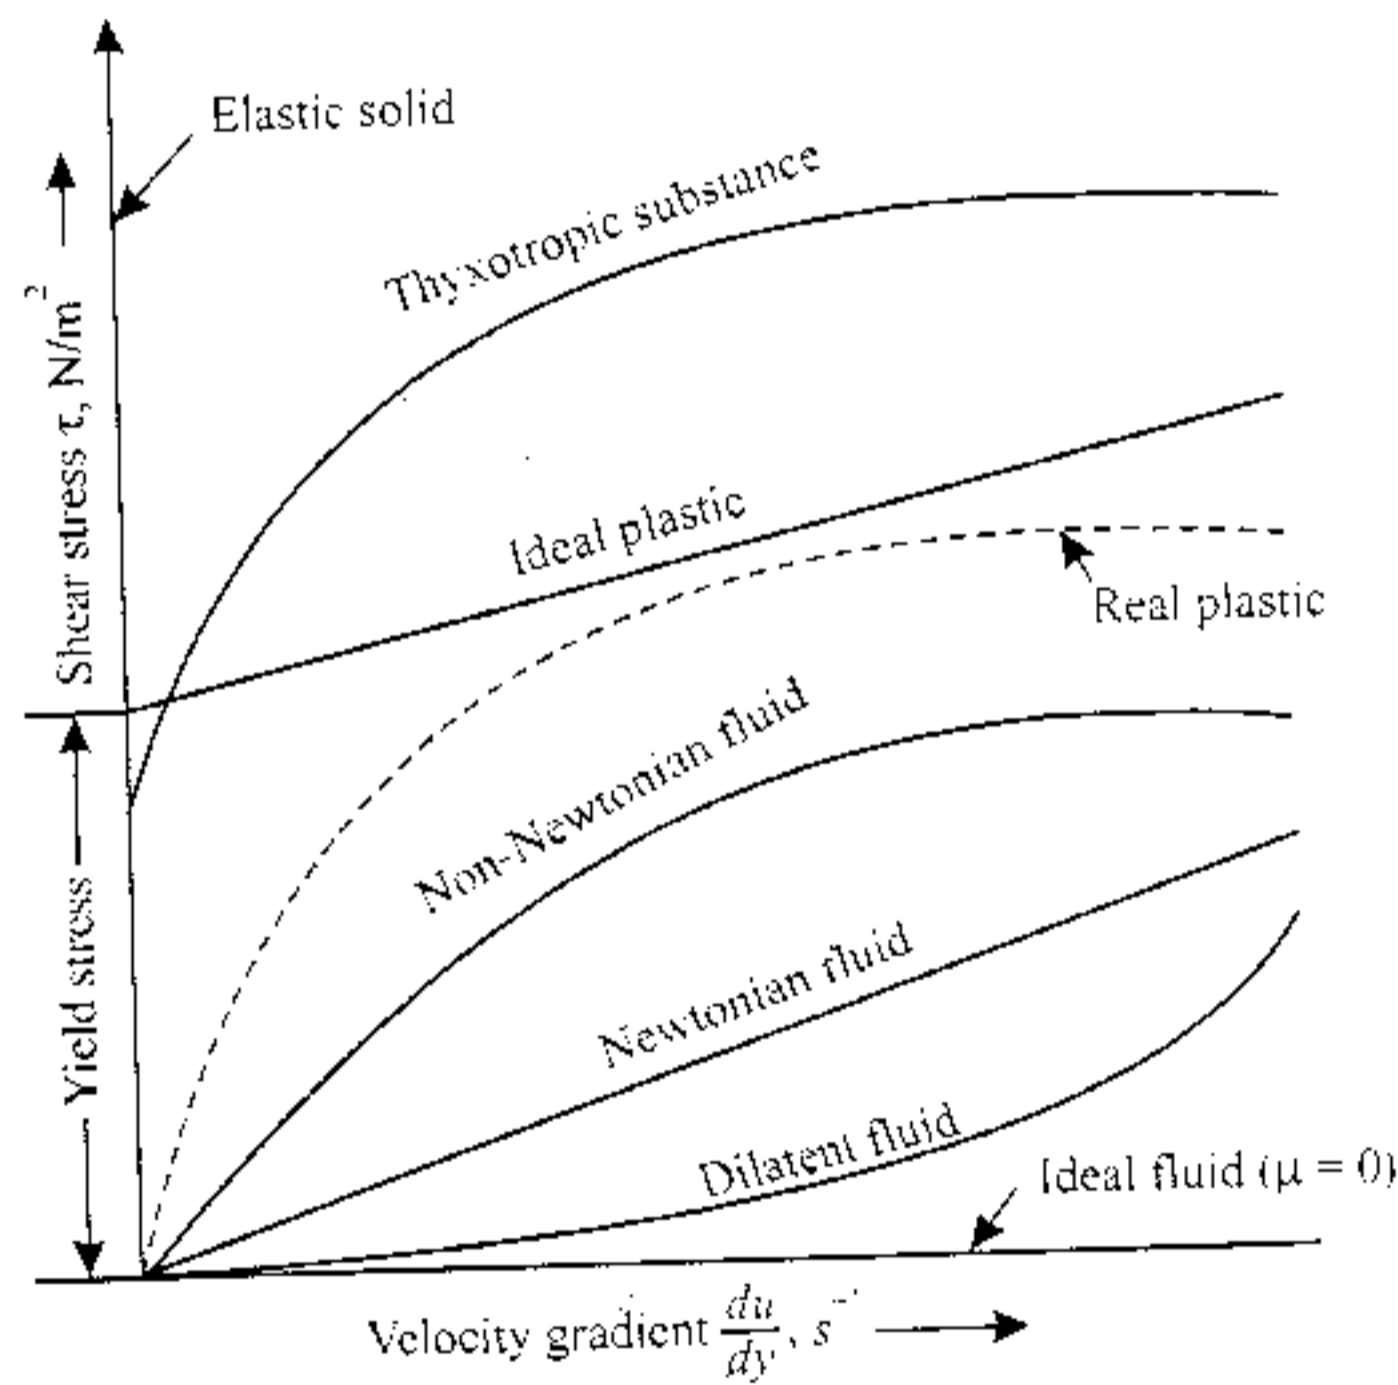

Fig. 1.2. Variation of shear stress with velocity gradient.
Refer to Fig.1.2.
**3. Plastic fluids.** In the case of a plastic substance which is non-Newtonian fluid an initial yield stress is to be exceeded to cause a continuous deformation. These substances are represented by straight line intersecting the vertical axis at the "yield stress" (Refer to Fig. 1.2).